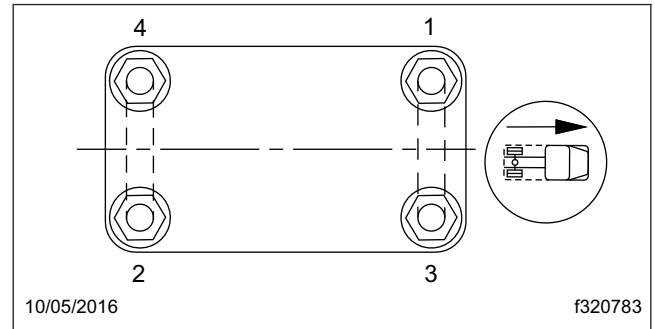

Fig. 3, Tightening Pattern for U-Bolt High Nuts
2. Check the U-bolt torque. See **Table 6** for U-bolt torque specifications. Tighten in a diagonal pattern as shown in **Fig. 3**. Set a click-type torque wrench to the mid-point torque value for the fastener being checked. Turn the wrench in a clockwise motion (looking up) until the torque wrench clicks, then release pressure on the torque wrench, and turn the wrench again until it clicks. If the nut turns on the second application, the bolt is stretching and must be replaced. See **Group 32** of the *New Cascadia™ Workshop Manual* for bolt replacement procedures.